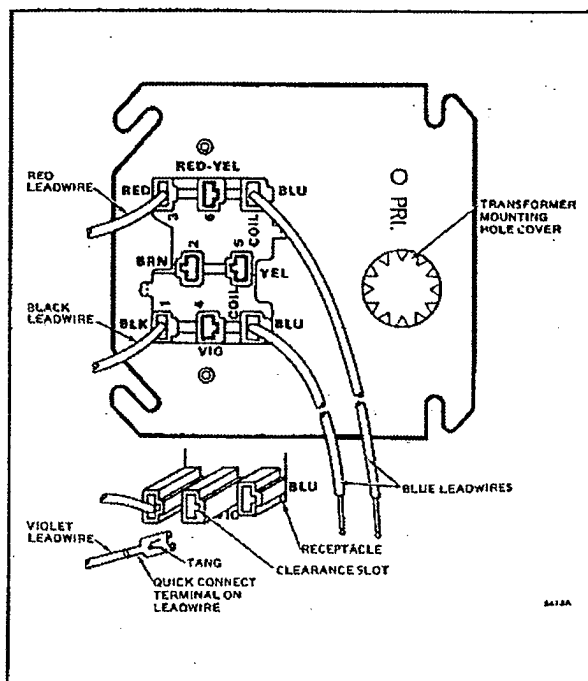

Fig. 7—Bottom of relay receptacle showing leadwire hookup.
2. Align the tang on the leadwire quick-connect terminal with the small clearance slot in the terminal opening (see Fig. 7).